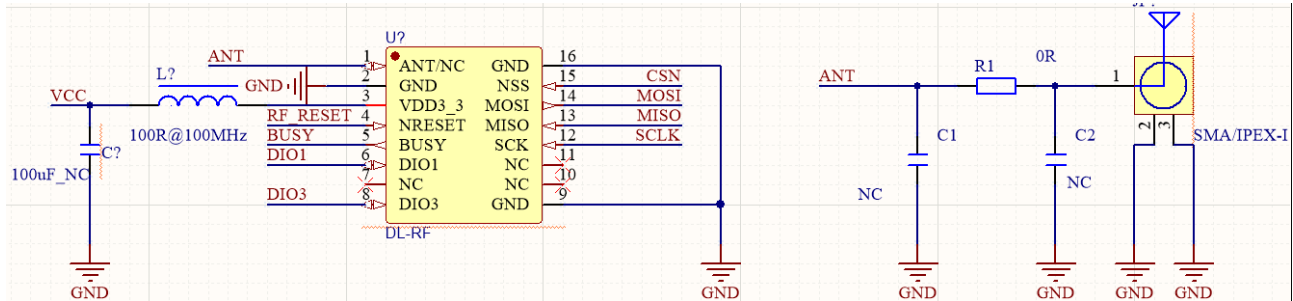

Figure 1: Reference Schematic Diagram of the RF Module
- 1) Please reserve a **π -matching circuits** as above **Figure 1** on your PCBA, for eventual RF performance optimization in antenna design.